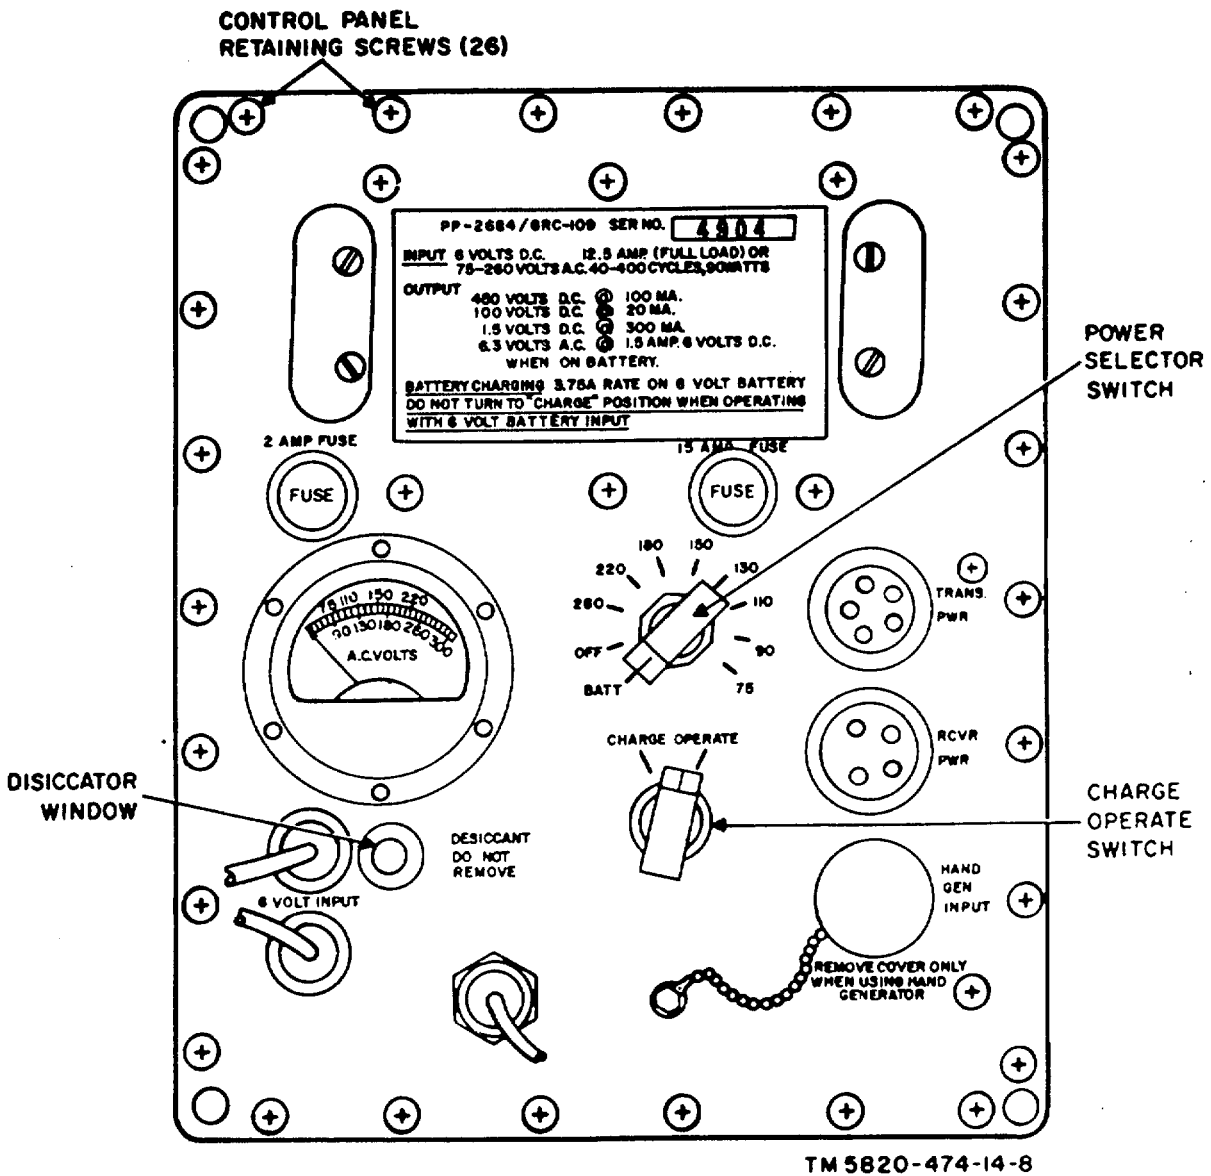

Figure 10. Power Supply PP-2684/GRC-109, front panel.
When not using the hand-cranked generator, be sure that the cover is in place on the HAND GEN INPUT receptacle on the large power supply (fig. 10).
- (1) Plug the transmitter interconnecting cable into the TRANS. PWR. receptacle on the large or small power supply (fig. 10 and 11).
- (2) Plug the receiver interconnecting cable into the RCVR PWR. receptacle on the large or small power supply.
- (3) Turn the power selector switch on the power supply to OFF.
- (4) Connect the power supply power cord to the ac source.
- (1) Plug the transmitter interconnecting cable into the TRANS. PWR. receptacle on the large power supply (fig. 10).
- (2) Plug the receiver interconnecting cable into the RCVR PWR. receptacle on the large power supply.
- (4) Turn the CHARGE-OPERATE switch to OPERATE.
- (5) Connect the red battery lead to the positive terminal of the battery.
- (6) Connect the black battery lead to the negative terminal of the battery.
- (1) Connect the transmitter interconnecting cable to the TRANS. PWR. receptacle on the large power supply (fig. 10).
- (2) Connect the receiver interconnecting cable to the RCVR PWR. receptacle on the large power supply.
- (3) Connect the hand-cranked generator to the HAND GEN. INPUT receptacle on the power supply with the 7-foot power cable.
- (4) Turn the power selector switch to OFF.
(fig. 10 and 11)
c. Power Supply PP-2685/GRC-109 (fig. 10).
a. For operation from an ac source,; observe the indication on the A.C. VOLTS meter, and then advance the power selector switch on the power supply (fig. 10 or 11) to the setting that corresponds to the voltmeter indication. If the voltmeter indicates a value between switch settings, set the switch at the higher numerical switch position.
a. When operating with the large or small power supply, shut down the entire radio set by turning the power supply power selector switch (figs. 10 and 11) to the OFF position.